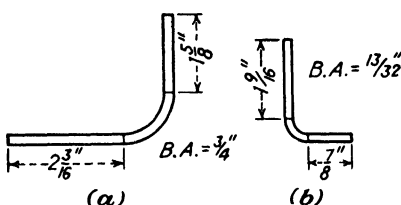

Fig. 245.
2. Find the over-all length of the fittings shown in Fig. 245.